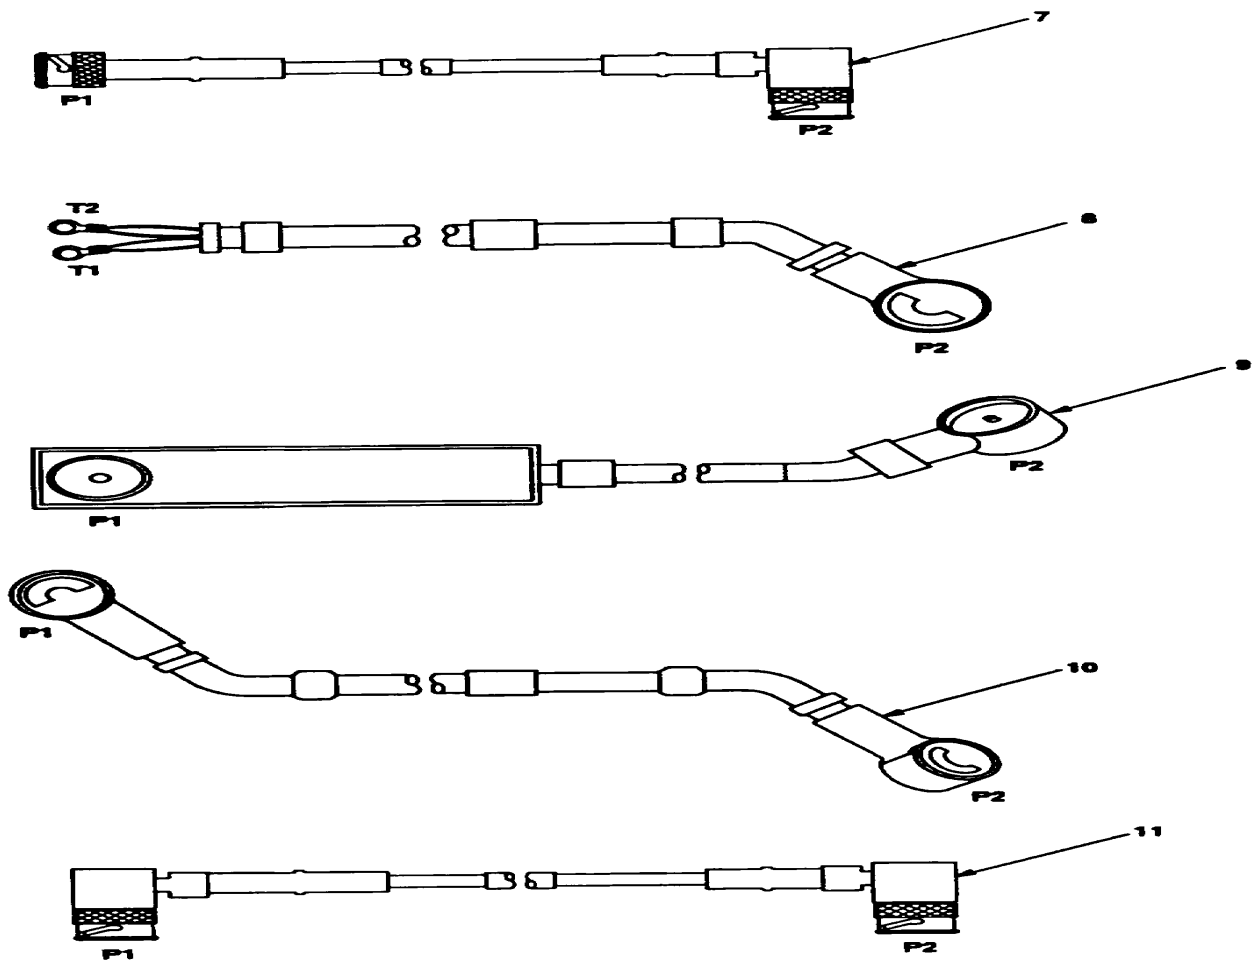

Figure 5-2. Antenna Base Installation: Installing Antenna Base
- a. Gasket (4). Place on existing antenna support and align mounting holes. See figure 5-2.
b. Antenna base (3).	Place on top of gasket (4) and antenna support; then align mounting holes. See figure 5-2.
c. Four cap screws (1), eight IET washers (2) and four nuts (5).	Install and secure to antenna base (3) and antenna support.	Tools: 9/16 in socket and 9/16 in open/box wrench.
d. Ground strap (8), cap screw (6), two IET washers (7) and existing shelter ground strap.	Install and secure to lower hole in antenna support.	Tools: 7/16 in socket.